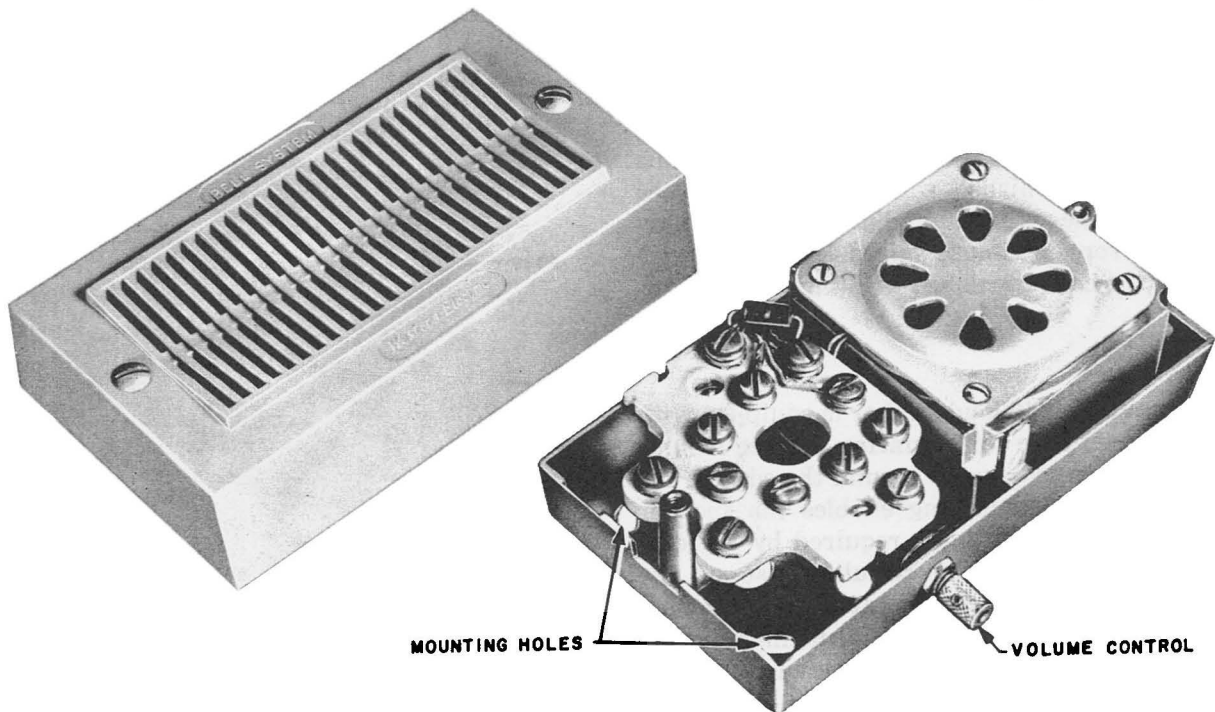

Fig. 3 – 759B Loudspeaker
3.04 The 759B loudspeaker (Fig. 3) may be mounted vertically or horizontally and does not require a backboard. Four mounting holes are provided in the metal base. The base is also drilled for mounting on a 63A bracket or a standard electric outlet box by using a 146A adapter assembly. The cord and cable enter through two holes provided in the base or through the knockouts at the end of the base. The 12-terminal connecting block serves as a bridging point between the cable from the 54A control unit and the telephone set cord or cable. A hook slot is provided in the connecting block to anchor the set cord. The loudspeaker is an integral part of the station location. It should be installed as near as practicable to the telephone set. The volume control knob should be readily accessible. When there are two monitor stations, the SA lead shall be connected and run to only one of the 759B loudspeakers.